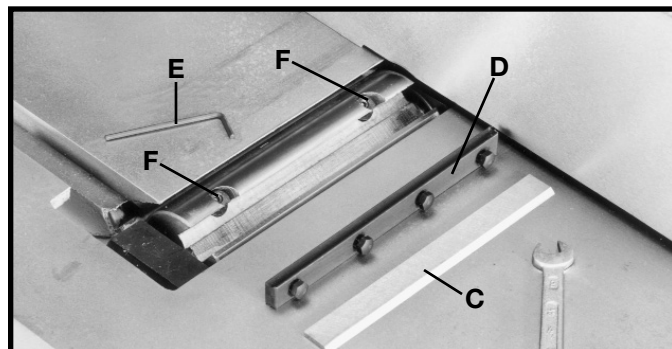

Fig. 50
3. Fig. 50, shows the knife (C) and knife locking bar (D) removed from the cutterhead. Remove the remaining two knives and locking bars, in the same manner.
4. Using wrench (E) Fig. 50, lower the two knife adjustment blocks to the bottom of the cutterhead by turning screws (F) counterclockwise in all three slots of the cutterhead.
6. Place the knife locking bars (D) Fig. 50, and knives (C) into each slot in the cutterhead.